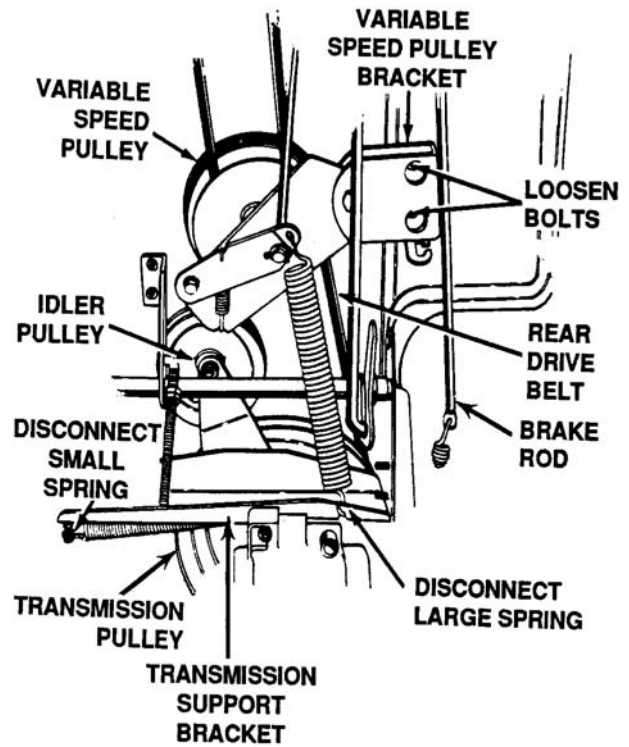

Figure 4-18. Location of Pulleys
- h. Remove the rear drive belt from around the top of the variable speed pulley. Remove belt from transmission pulley and idler pulley. See Figure 4-18.